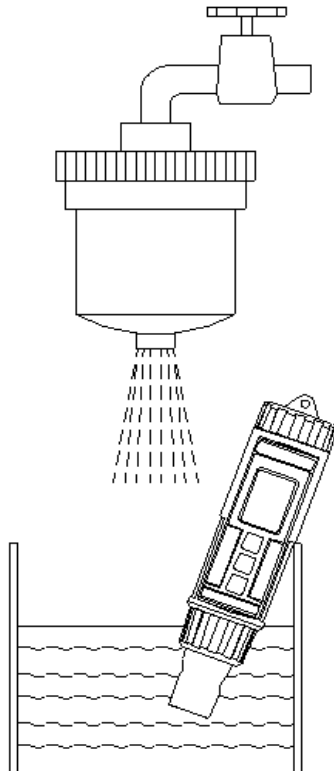

Fig. 4
3) Secondary check the reading values (μS) for the water that already make the treatment (after the FILTER), ref. Fig. 4.